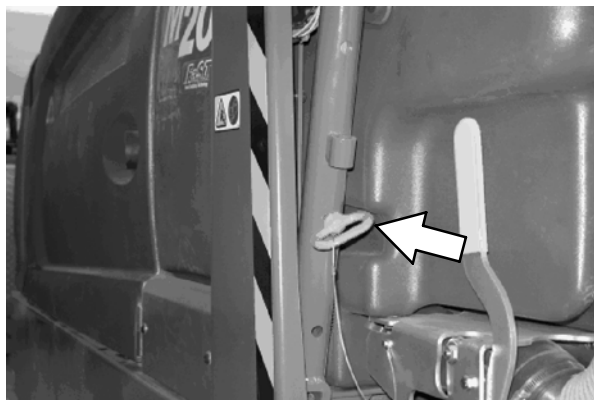

FIG. 1
2. Raise the hopper to the middle support position and engage the hopper support pin. Refer to Operators Manual for instructions and safety information. Refer to Fig. 1.